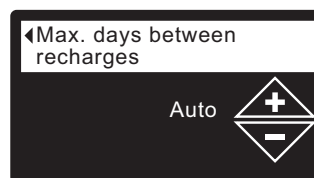

FIG. 87
- 8b. **Maximum days between recharges:** Press the UP (▲) or DOWN (▼) buttons to change the number of days (See Figure 87). The feature can be set from 1 to 15 days. Setting the number of days below 1 turns the feature off and defaults to automatic control of recharging.